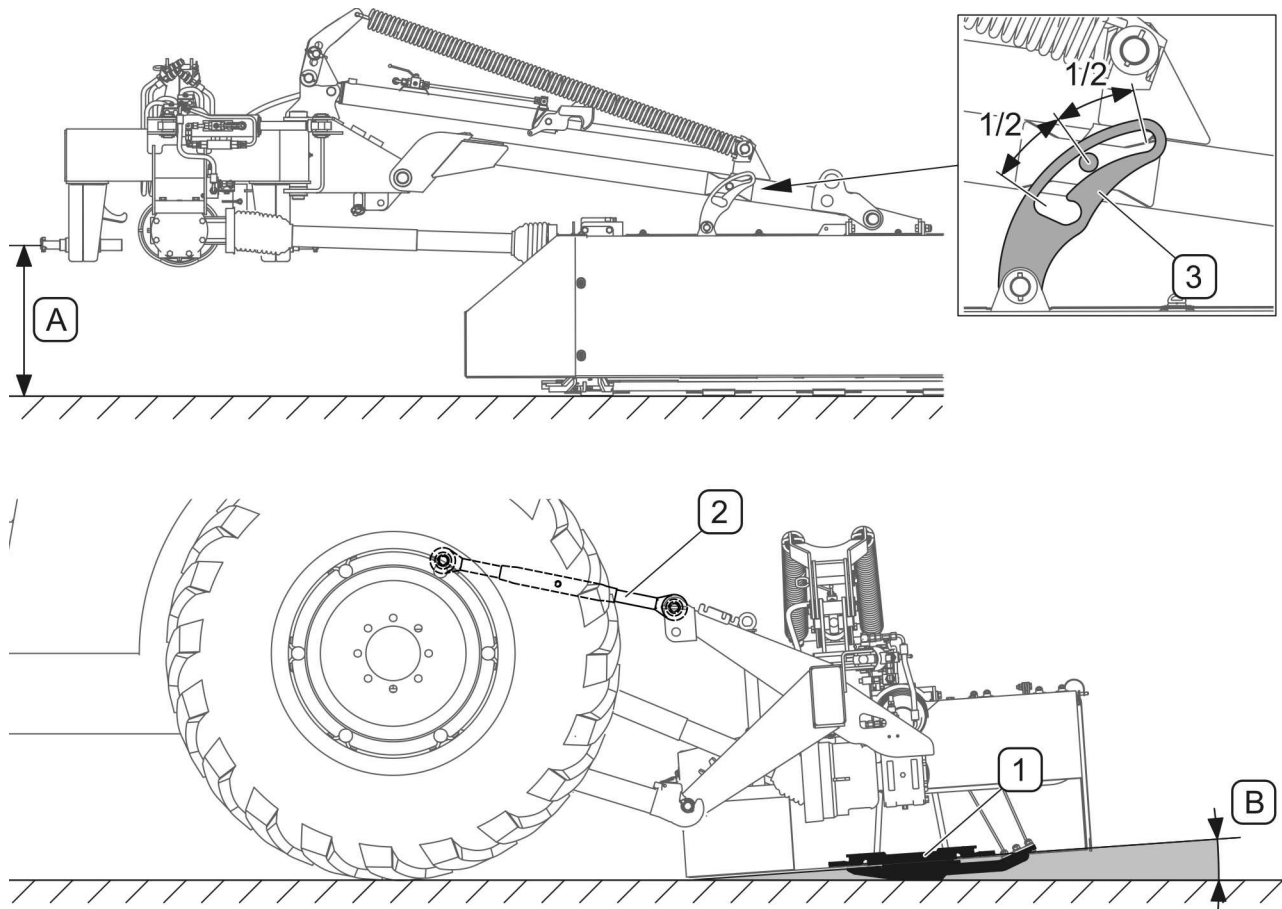

FIG. 4.7A Setting cutting height
(1)- tipping cylinder interlock valve; (2)- lifting arm cylinder interlock valve;
(3)- cylinder lock cable; (4)- cylinder lock
- Release lock (4) by pulling cable (3) and by operating the tractor's hydraulic circuit, lower lifting arm with cutting unit so that the cutter bar is supported freely on the ground and set tractor's hydraulic circuit in float position,
- set tractor three point linkage at a height of approx. A= 400 mm (FIG. 4.7A) so that the pin is more or less in mid lock range (3).
Once the above is completed adjust the length of the top link (2) so that angle ^(A) of cutterbar inclination ⁽¹⁾ in relation to the ground is from 4° to 5° (FIG. 4.7A). Cutting height can be set higher by extending the top link (2), or set lower by shortening the top link.